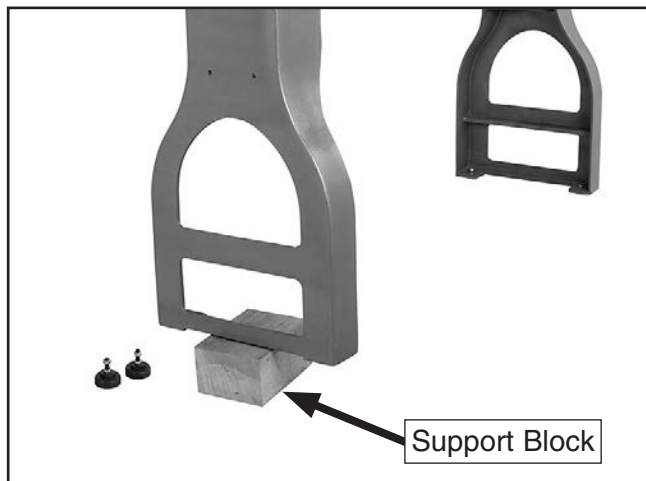

Figure 13. Legs supported for feet installation.
5. Use assistants to lift one end of lathe onto support blocks and stabilize lathe in preparation for installing machine feet (see **Figure 13**).